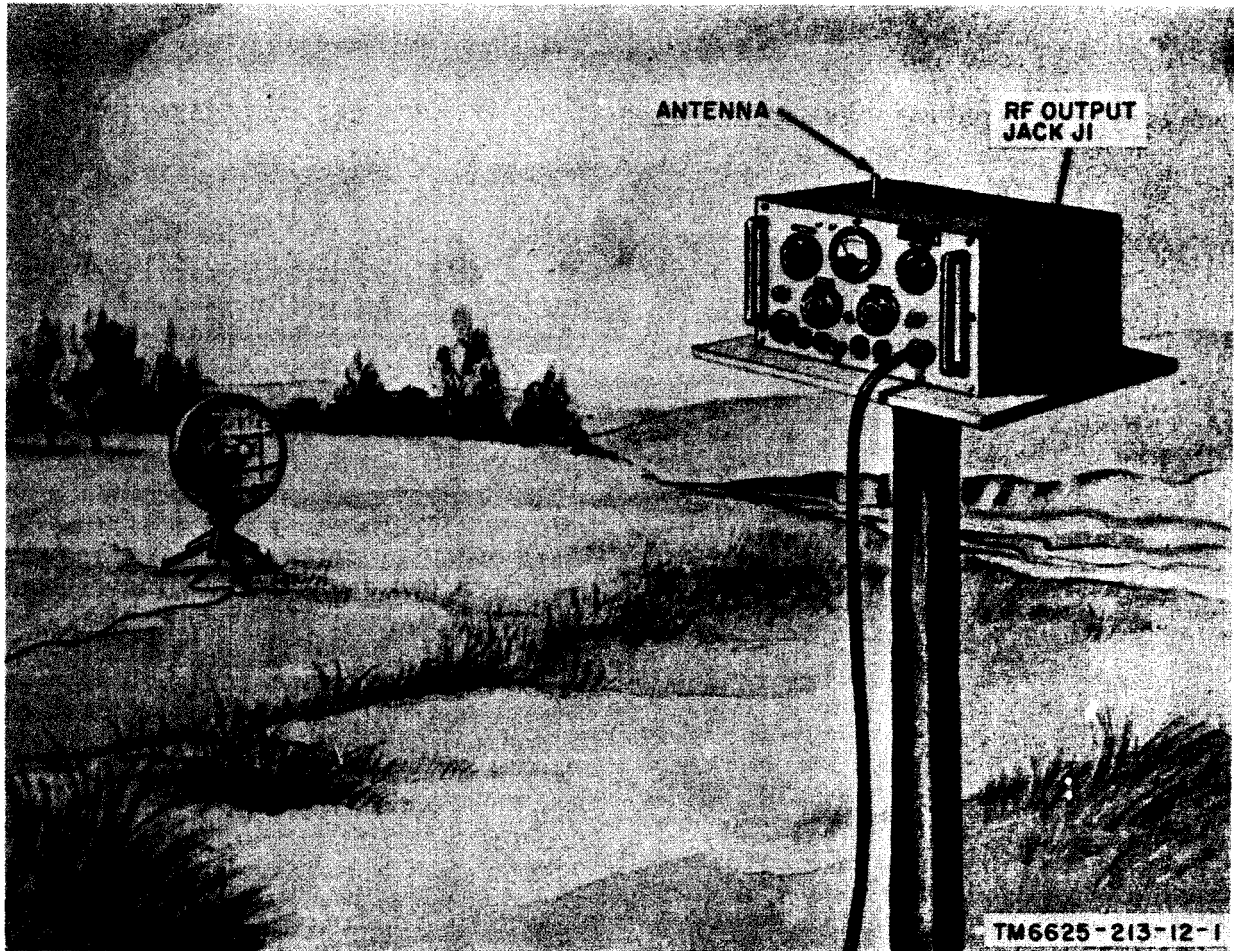

Figure 2. Test Set TS-538(\*)/U in use.
(2) Measure the sensitivity, bandwidth, and tracking accuracy of Rawin Set AN/GMD-1(\*).
b. Test Set TS-538(\*)/U may also be used for similar purposes with any transmitter and/or receiver that operates within its frequency range (para 4). Figure 2 shows a typical application.